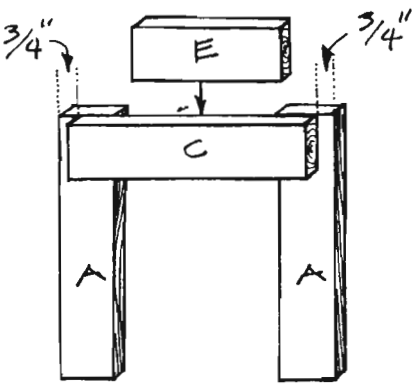

Figure 1
1. The construction of one side is shown in *Figure 1*. Attach two legs
2. As shown in *Figure 1*, attach the side spacer (E) between the legs.